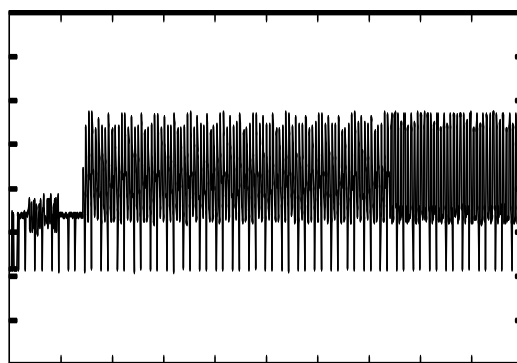

figure 4
- The observed image corresponds to the first 10 milliseconds of the TV frame. The synchronization stream is perfectly visible at the beginning of the screen (figure 4).